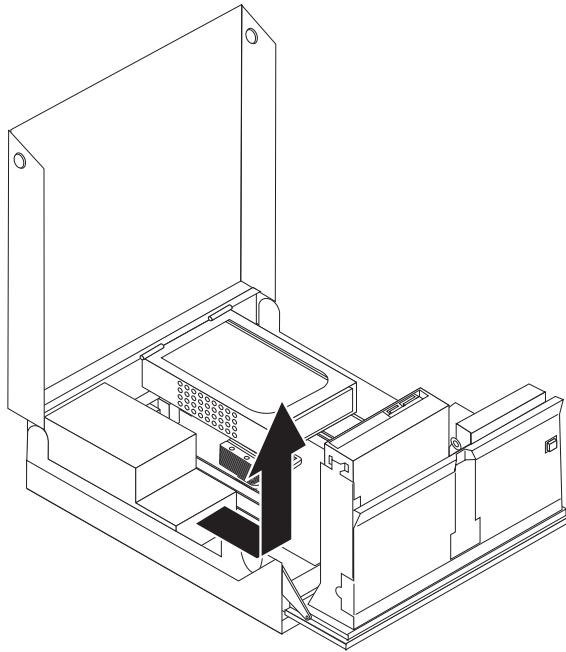

Figure 19. Removing the power supply
8. Slide the power-supply assembly away from the chassis and remove it from the computer. See Figure 19.